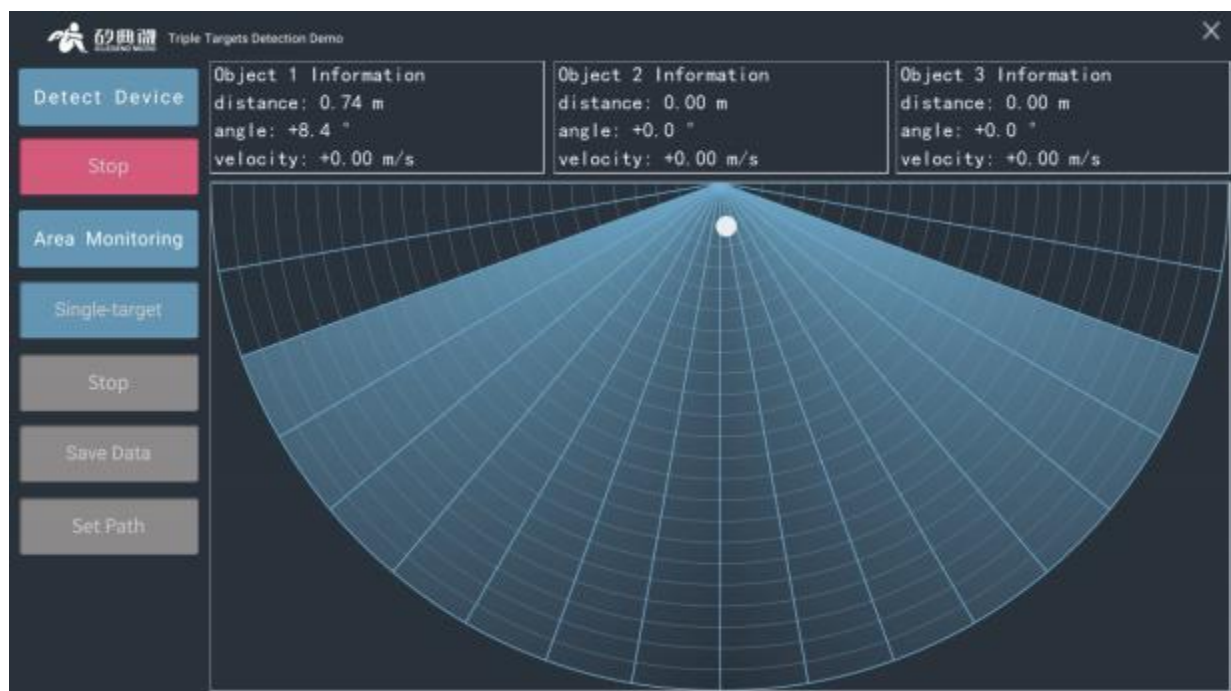

Figure 4-5 Multi-target detection demonstration
Step 4: After the upper computer is opened, the default is "single target detection demonstration", click the "multi-target detection/single target detection" button will switch to the "three target detection demonstration" interface, as shown in Figure 4-5, click the button again to switchback to the "single target detection demonstration interface". **Note: Single Target Detection mode is not available for tracking multiple targets.**